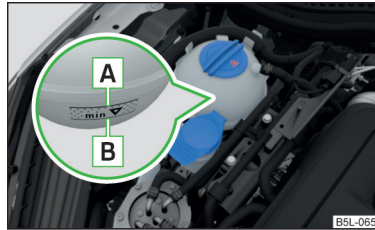

Fig. 162
Check the coolant level - the coolant level must lie between the marks **A** and **B** » Fig. 162. If the coolant level is below the mark **B**, top up with coolant.
The **specification** for the coolant is shown in the coolant expansion reservoir » Fig. 162.
- Do not fill the coolant above the mark **A** » Fig. 162. The coolant could, when heated, be expelled from the cooling system - There is a risk of damage to the engine parts.